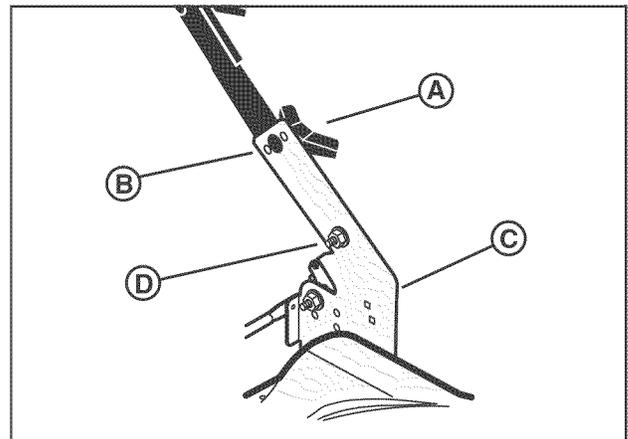

Figure 4: Removing the handle adjustment hardware
1. Remove the wingnuts (A, Figure 4), washers (not shown), and bolts (B) from the right and left handle brackets (C).
*NOTE:* Do not remove the lower set of handle hardware (D).